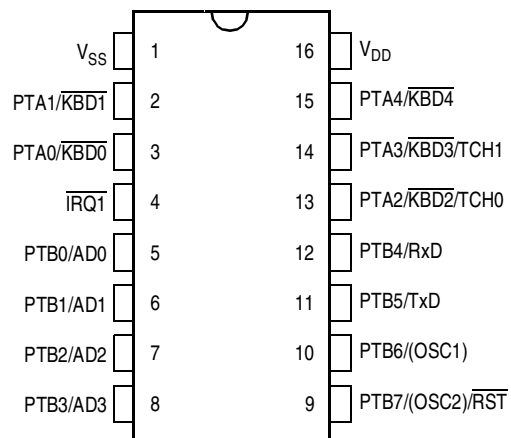

Figure 1. PDIP and SOIC Pin Assignments
- d. Pin assignment diagram (see Figure 1)